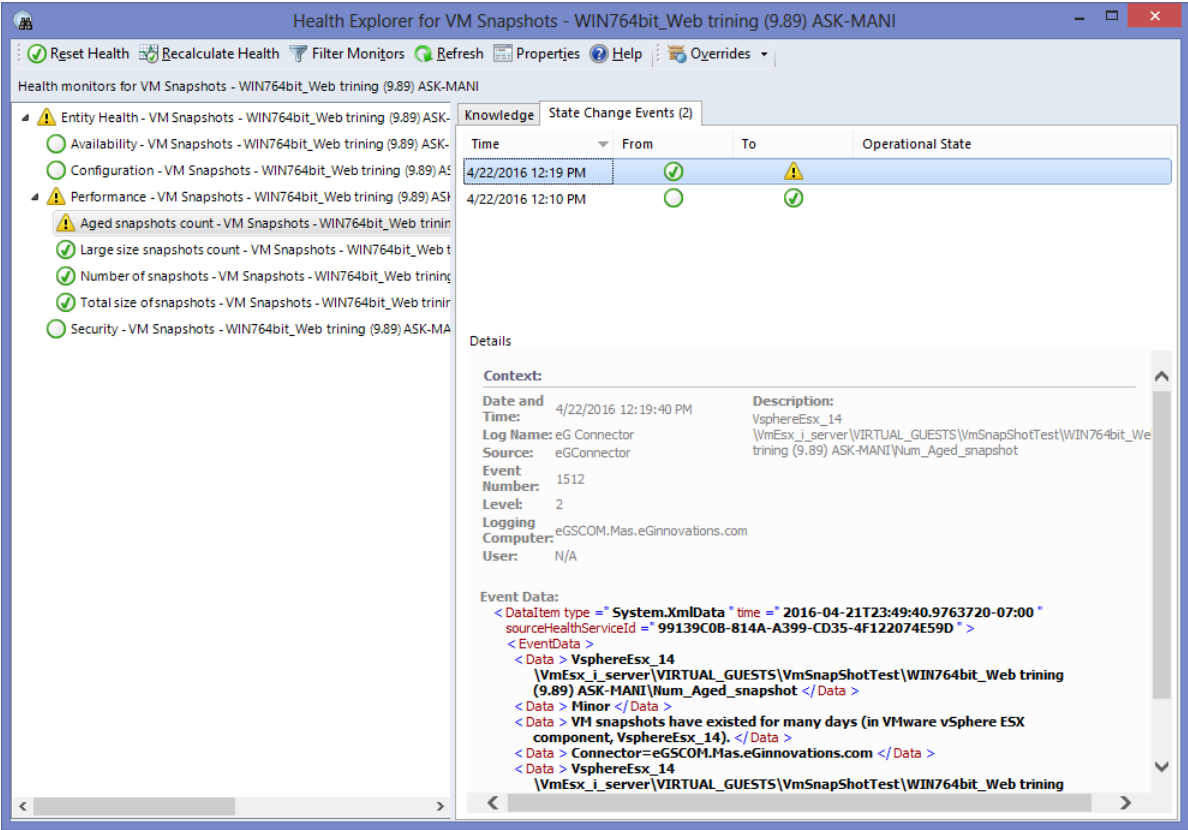

Figure 3.22: State Change Events tab
3. The right panel comes with two tabs. In the **Knowledge** tab, you can easily and instantly view the details of the chosen measure as described in the context-sensitive help page that corresponds to the chosen test. In the **State Change Events** tab on the other hand, you can view the transitions in the state of a test/measure chosen from the left panel. For instance, in Figure 3.22 below, you can view the state transitions for the **Aged snapshot counts** measure chosen from the left panel. This way, you can easily view the state history of a test/measure and effortlessly figure out what state a test/measure has been in at what time.